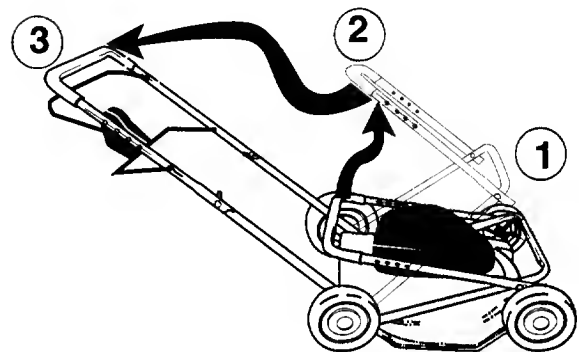

Figure 2
- Pull up and back on the upper handle to raise the handle into the operating position. Make certain the lower handle is seated securely into the handle mounting brackets. See steps 1, 2, and 3 in figure 2.